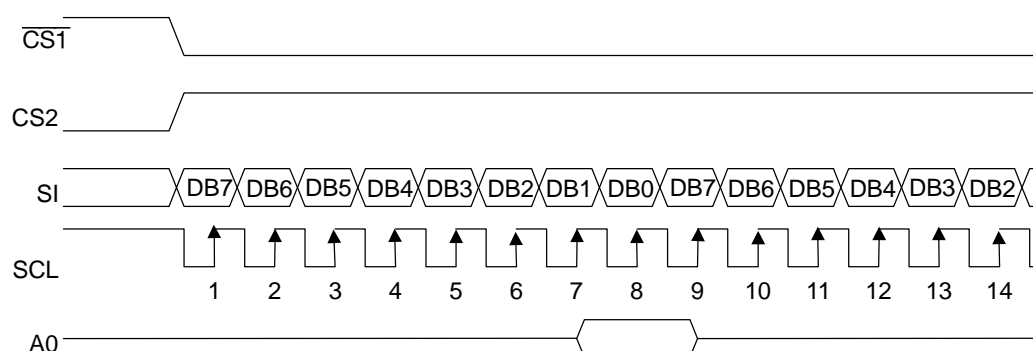

Fig. 1 Signal chart during serial interface
When the serial interface is selected ($\overline{P/S} = "L"$), the serial data input (SI) and the serial clock input (SCL) can be accepted if the chip is in the active state ($\overline{CS1} = "L"$ and $CS2 = "H"$). The serial interface consists of an 8-bit shift register and a 3-bit counter. The serial data is read in from the serial data input pin in the sequence DB7, DB6, ..., DB0 at the rising edge of the serial clock input, and is converted into parallel data at the rising edge of the 8th serial clock pulse and processed further. The identification of whether the serial data is display data or command is judged based on the A0 input, and the data is treated as display data when A0 is "H" and as command when A0 is "L". The A0 input is read in and identified at the rising edge of the $(8 \times n)$ th serial clock pulse after the chip has become active. Fig. 1 shows the signal chart of the serial interface. (When the chip is not active, the shift register and the counter are reset to their initial states. No data read out is possible in the case of the serial interface. It is necessary to take sufficient care about wiring termination reflection and external noise in the case of the SCL signal. We recommend verification of operation in an actual unit.)